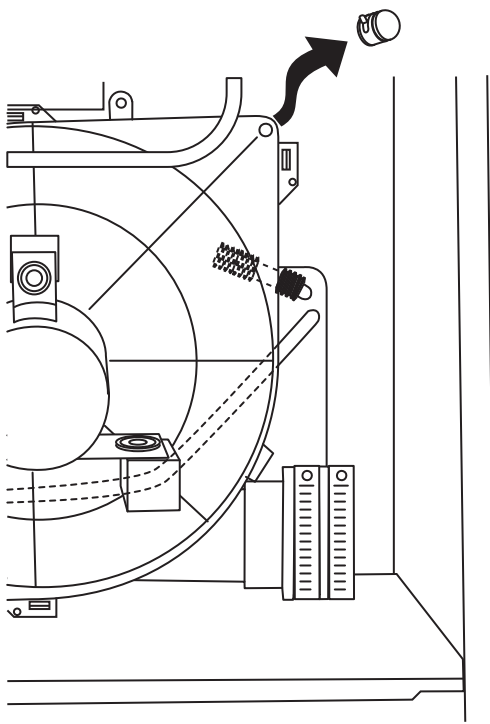

Fig. 44 - Inducer Housing Drain Tube Cap
- Remove upper inducer housing drain connection cap. (See Fig. 44.)